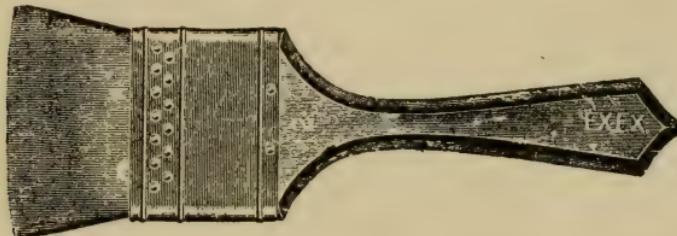

Fig. 40—Camel's Hair Mottler.
30. a. *Camel's hair varnish brushes* are used for many purposes and by nearly all branches of the painter's trade. They are very soft and lay varnish very smoothly. They all are made flat on somewhat variously shaped heads with shorter length hair than varnish brushes from other material are usually made as otherwise they would work too flabby. Their sizes are numbered according to width in  $\frac{1}{2}$  inch gradations from  $\frac{1}{2}$  to 4 inches. See Fig. 40.